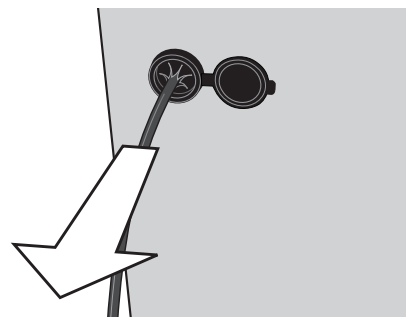

Figure 3, Exterior View
- After removing knock-out, insert Power Pass™ rubber grommet. Do **NOT** insert extension cord through hole without grommet in place (see figure 3).
4. When passing cords into the box, be sure to always enter box from the rear. After head of cord is in place, slightly pull back 2-3" to ensure weather resistant "star bursts" are facing toward the outside of box (figure 3). *Never push the cord from inside the box so that mating plug points are exposed to the environment*